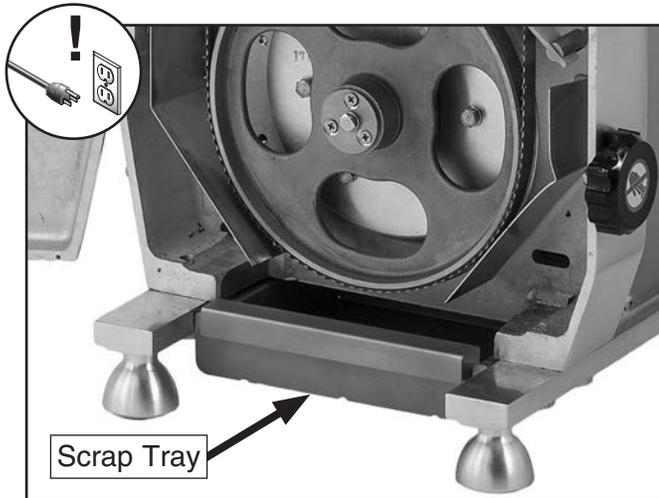

Figure 18. Scrap tray located beneath lower wheel.
5. Remove scrap tray from underneath lower wheel (see **Figure 18**).